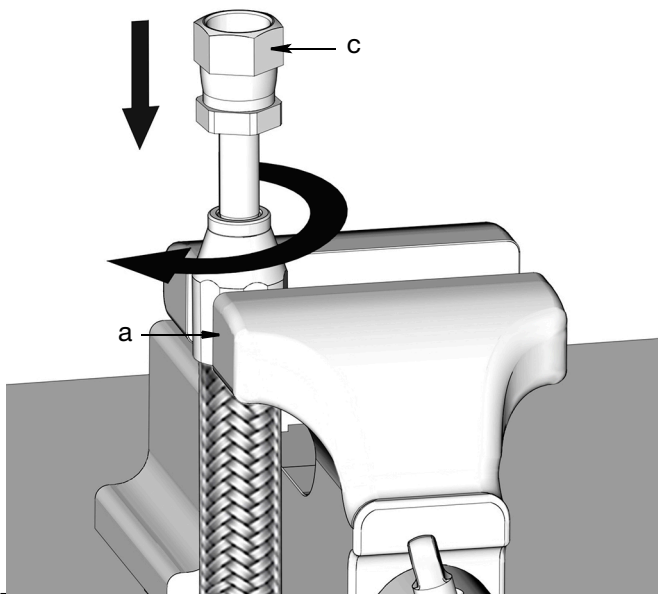

FIG. 65
- Lightly push nipple (c) into socket (a). Screw nipple clockwise into socket and hose (FIG. 65).